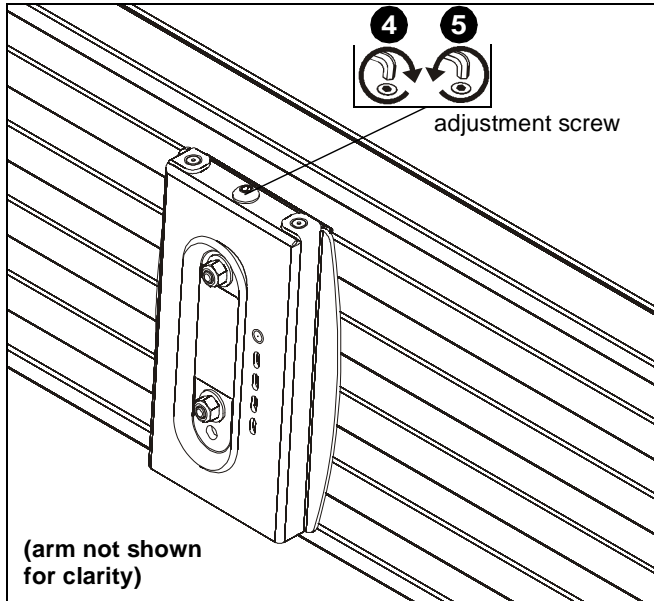

Figure 3
4. Using 5/32" hex key (N), turn adjustment screw clockwise to lower mounting plate until it is able to easily slide into wall track. (See Figure 3)
5. Using 5/32" hex key (N), turn adjustment screw counter-clockwise to raise lower mounting plate until bracket is fully secured to slat wall. (See Figure 3)